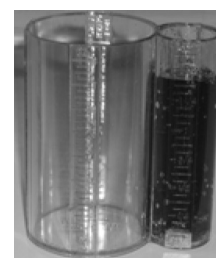

Figure 7.
7. Tap the ratio cup on the counter 3 times. Place it on a level surface and read the ratio immediately. The water and syrup levels should be within ± 2 bars, of each other (Figure 7) If so, move onto next syrup.